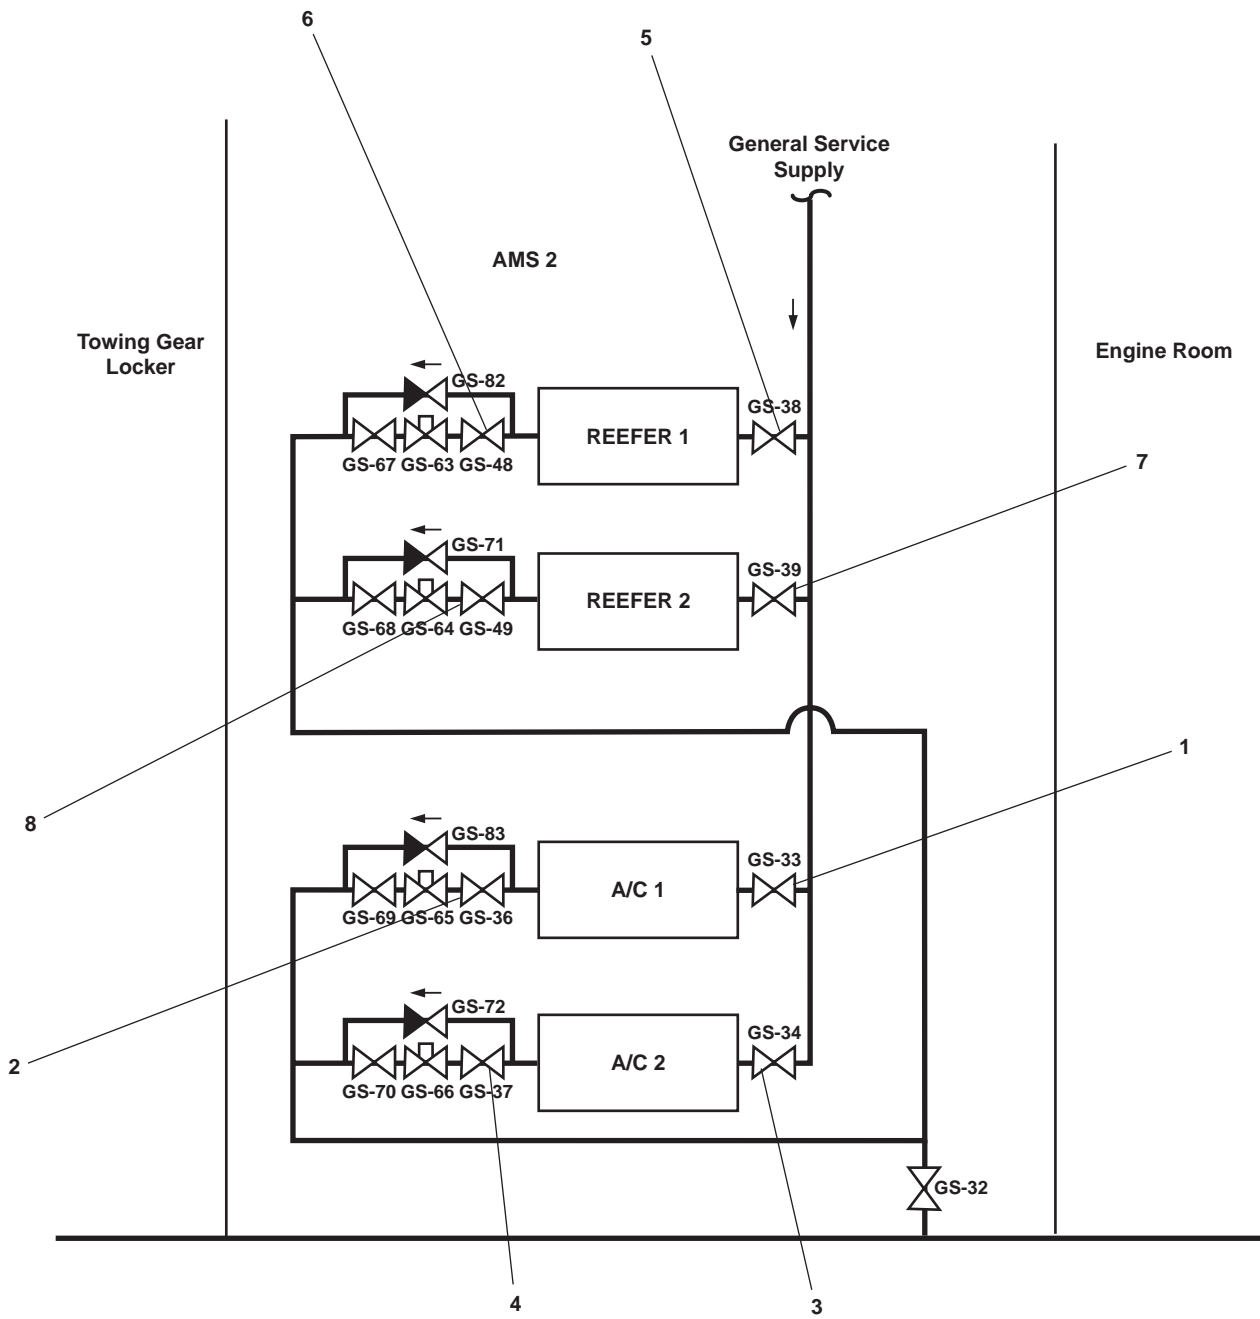

Figure 2. Condenser Cooling Water Valves
- (1) GS-33, A/C COND No.1 SPLY (figure 2, item 1), air conditioning condenser 2 supply
- (2) GS-36, WTR RGLTR COV (figure 2, item 2), water regulator inlet
- (1) GS- 34, A/C COND No.2 SPLY (figure 2, item 3), air conditioning condenser 1 supply
- (2) GS-37, WTR RGLTR COV (figure 2, item 4), water regulator inlet
- (1) GS-38, RETR COND No.1 SPLY (figure 2, item 5), reefer condenser 2 supply
- (2) GS-48, WTR RGLTR COV (figure 2, item 6), water regulator inlet
- (1) GS-39, RETR COND No.2 SPLY (figure 2, item 7), reefer condenser 1 supply
- (2) GS-49, WTR. RGLTR COV (figure 2, item 8), water regulator inlet